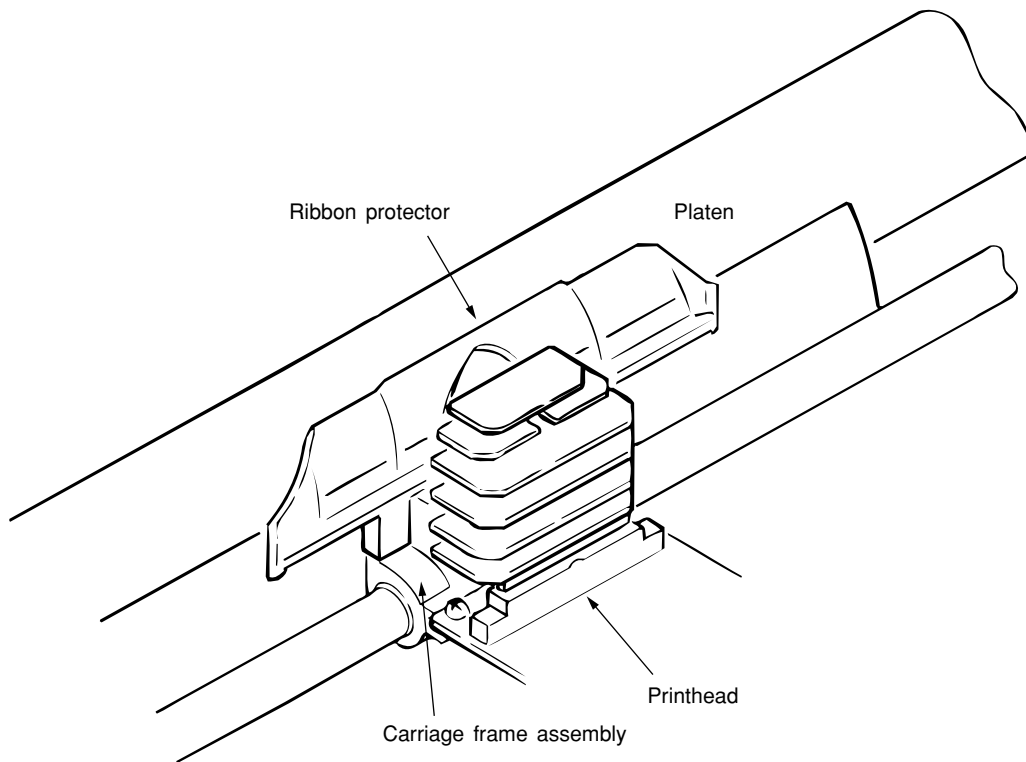

Figure 2-16
(4) Top line print mechanism (See Figure 2-16.)